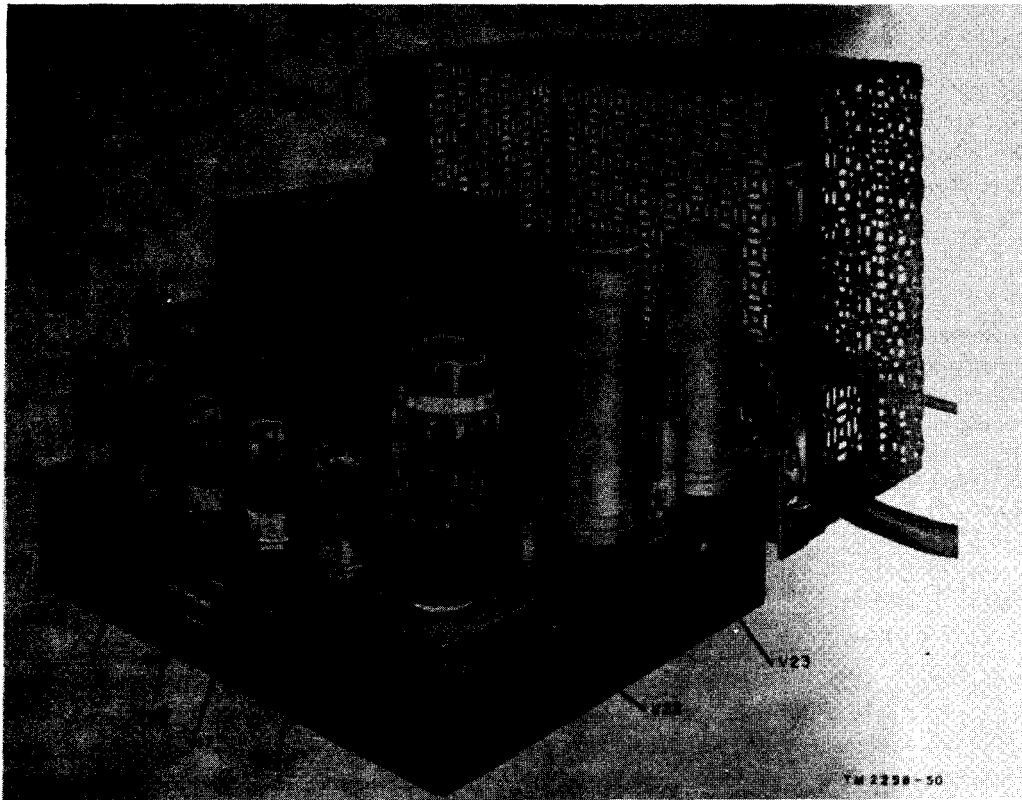

Figure 3. Rectifier power units PP-86/TXC-1, PP-86A/TXC-1, or PP-86B/TXC-1, cover removed.
of a front panel selector switch) and Rectifier Power Unit PP-86(\*)/TXC-1 (fig. 3) which supplies operating power to the transceiver and dust removal blower and operates from an alternating-current (ac) source of 115 volts at 60 cycles per second (cps).
*b. Rectifier Power Unit PP-86(\*)/TXC-1.* The rectifier power unit (fig. 3) is constructed on a metal chassis 12 inches long by 10 inches wide by 2½ inches high (some chassis are 3 inches high). All components are mounted on top of the chassis. The chassis is shielded and protected by a metal ventilated top cover and by a bottom cover plate with four metal feet. Two cables emerge from an opening in the top cover; one is a power cable for connecting to the ac line, and the other is a power cable that is terminated in a Jones plug attached to the transceiver. The rectifier power unit is provided with a canvas cover for protection during shipping. Rectifier Power Unit PP-86E/TXC-1 has a receptacle (J10) with a ground stud for the dust removal blower power cord. The fuse holder which housed the spare fuse in all former models of the rectifier power unit now is used for the 3 amp 3AG dust removal blower fuse (XF4, fig. 156).